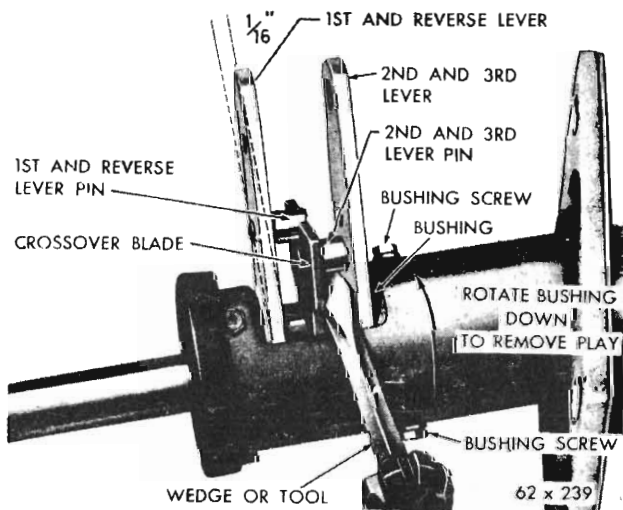

Fig. 9 - Gearshift lever adjustment (typical)
(1) Disconnect both the gearshift control rods at the transmission levers. Position both transmission levers in neutral. (The neutral detent balls must be engaged to make this adjustment correctly). To test, start the engine (with clutch disengaged) then release the clutch slowly.
(2) Inspect the column shift axial freedom of the shift levers in the column assembly. If the outer end of the levers move axially over 1/16", loosen the two upper bushing screws and rotate the nylon bushing (downward), until all free play of the levers has been removed. Re-tighten the bushing screws securely (refer Fig. 9).
(3) Install a wedge or suitable tool between the crossover blade and the second and third lever, so that the crossover blade is engaged with both lever crossover pins, as shown in Fig. 9.